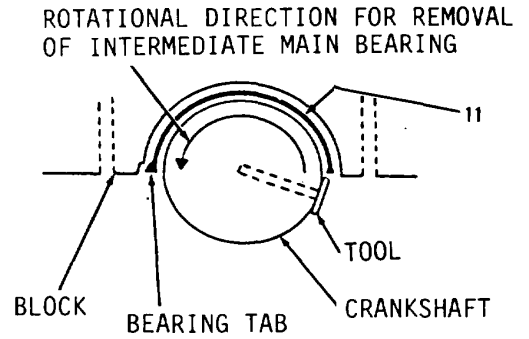

Figure 13-26.
3. Install tool in oil hole of crankshaft journal where two bearings (11, Figure 13-26) are to be removed.